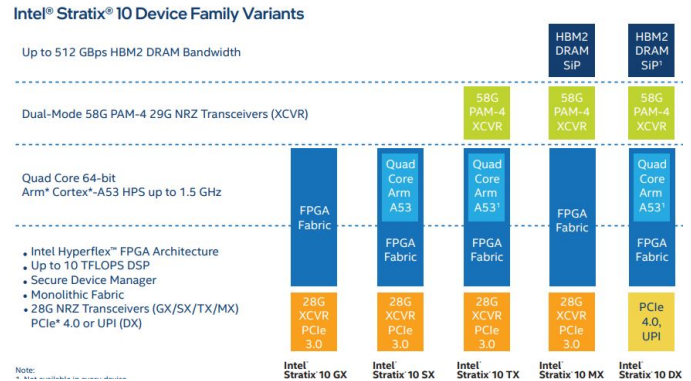

Fig. 1. Intel Stratix 10 FPGAs sub categories specifications
- 5) Stratix 10 FPGAs are further classified in 5 categories. [3] The specifications of the variants of Stratix 10 FPGAs are presented in figure 1.